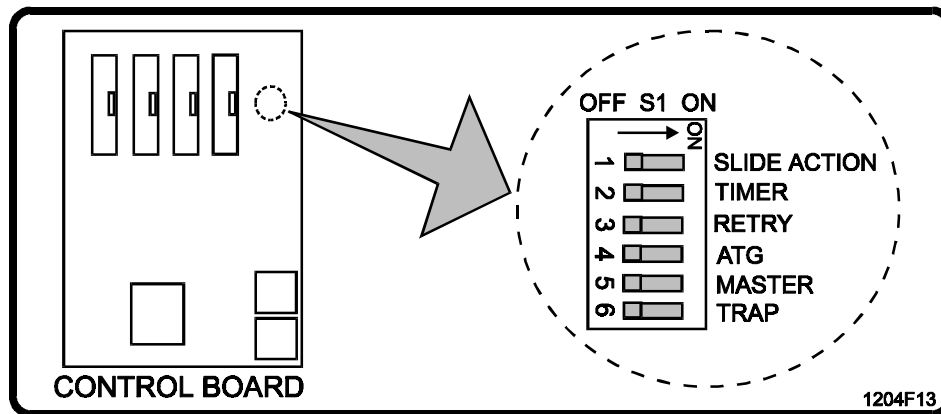

Figure 10. Gate Control Switch S1 Location.
- ◆ Before starting the adjustments, verify that the Left and Right reverse pots are set fully clockwise, and the Inrush pot is set to the 9 o'clock position (see Figure 10).